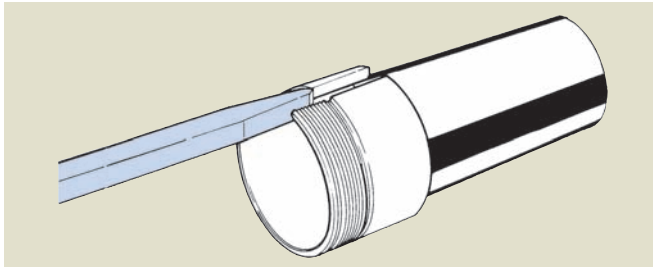

Fig. 4
- (1) When fitting the adapter to the shaft, use the appropriate wedge to open the split section of the adapter sleeve to make it easier to fit it to the shaft (see Fig. 4).